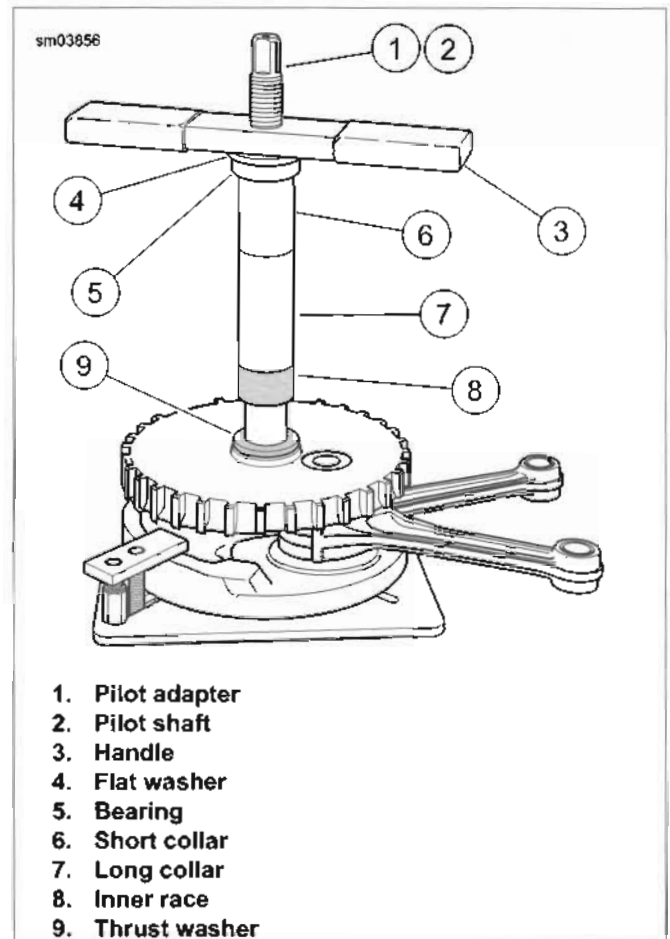

Figure 3-142. Press Inner Race onto Sprocket Shaft: Setup
- g. See Figure 3-142. Thread handle onto pilot shaft.